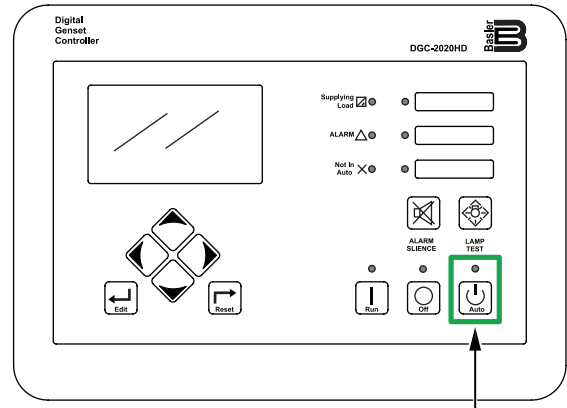

Figure 10. Digital Controller (Auto Button)
2. Press the **Auto button** (Figure 10) on the digital controller. When a start signal is received from the auto-start contacts, the engine will start automatically after the preheating process has completed.